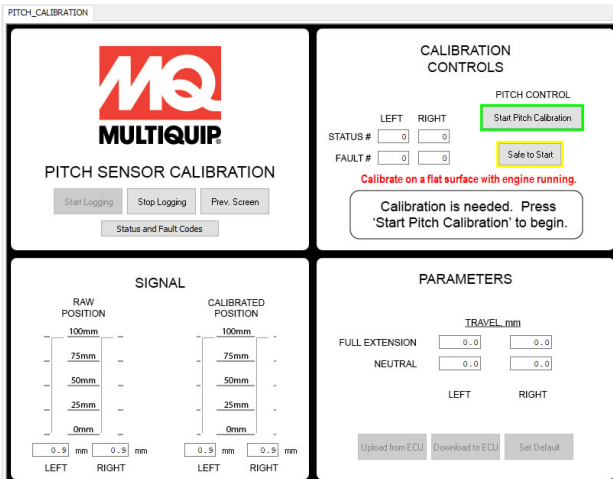

Figure 36. Pitch Sensor Calibration
5. Click the "Pitch Calibration Screen" button in Pitch Sensors section (Figure 36).